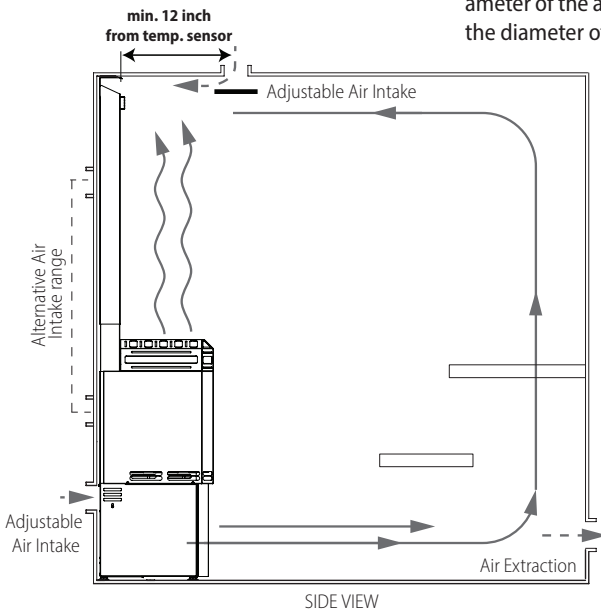

Figure 1
- The dimensions of the device are shown in **Figures 1** (see pages 25).
It is also necessary to prepare the air intake and exhaust air of the steam room in advance as shown on **Figure 1 & 2** (pages 21 and 22) and preparation for directing the cables of the device to the adjacent dry room.
* Recommended location of the air intake hole. Exact location may vary. See Figure 1 & 2.
1. Install the hot air intake cap (A) and center the heater housing in relation to the cap (B).